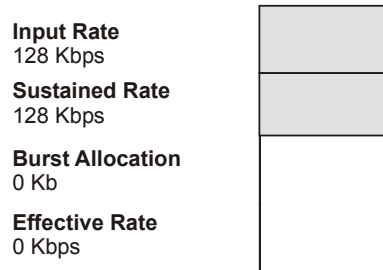

Figure 8: Burst Allocation vs. Sustained Rate, Example 4
- at zero shuts off the data pipe. (See Figure 8.)